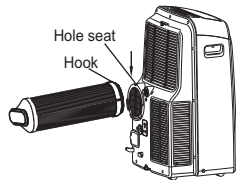

Fig. 17
2. Reset the hook of the Exhaust hose into the hole seat of the air outlet and slide down the Exhaust hose along the arrow direction (See Fig. 17) for installation.